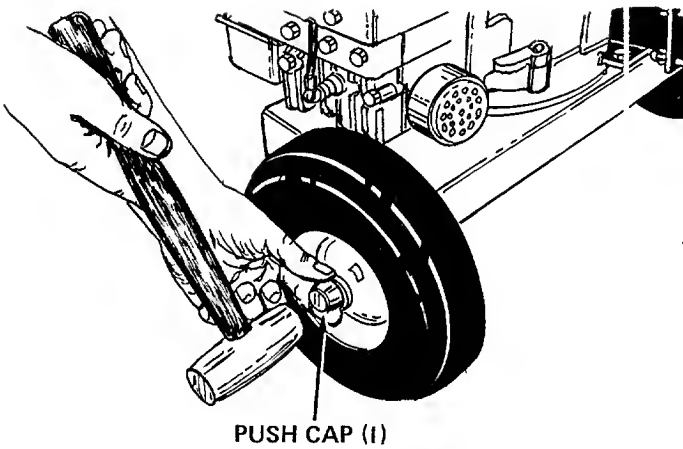

FIGURE 5
6. Secure wheel to axle with push cap (I). See figure 5.